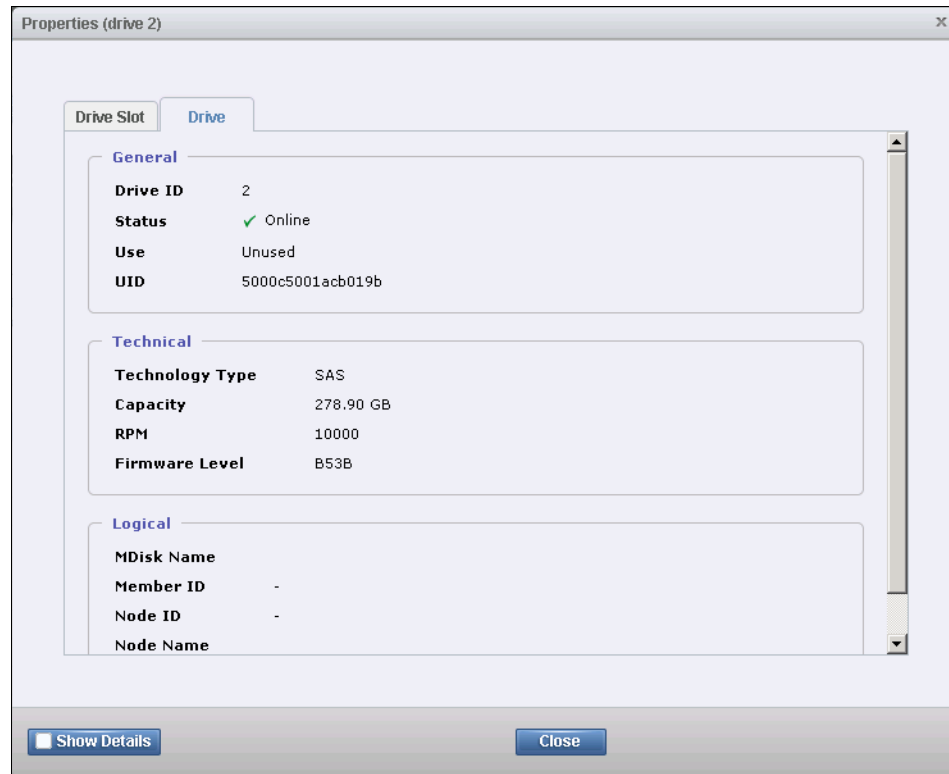

Figure 7-11 Properties tab with default format
- **Properties:** Clicking **Properties** in the Actions drop-down menu, or double-clicking the drive, provides more information about the drives (Figure 7-11).